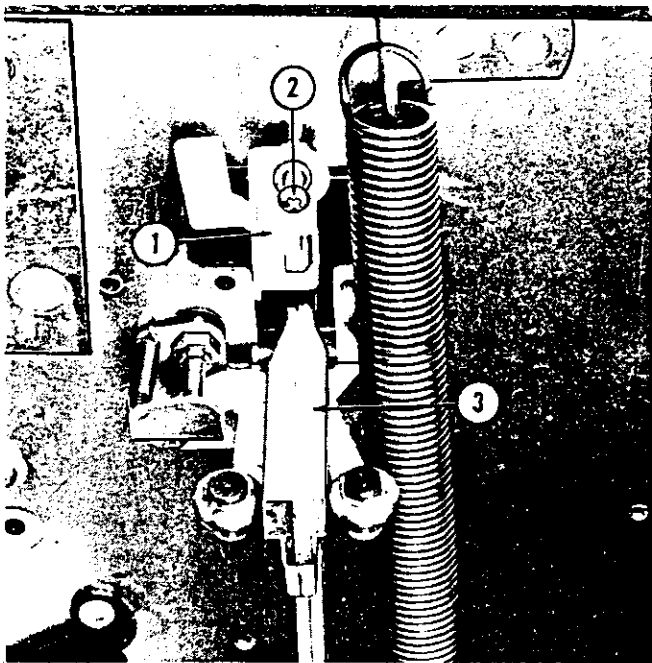
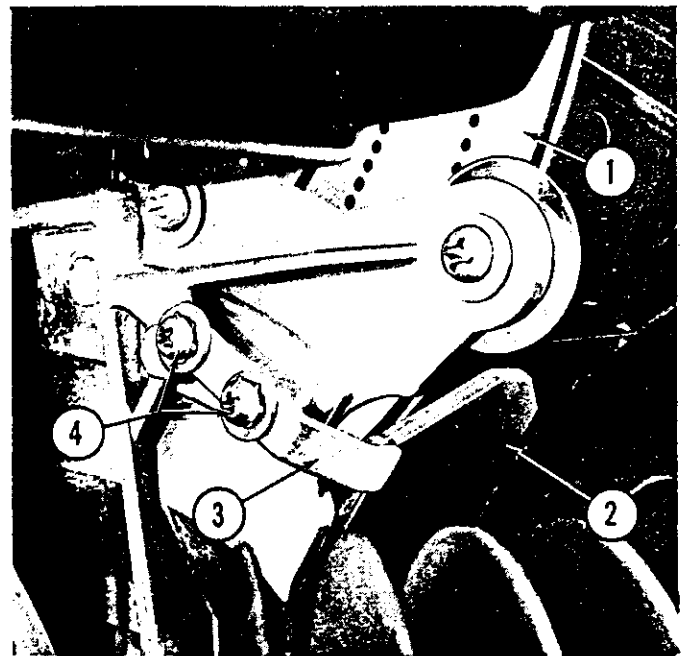

Fig. 73. RECORD LIFT ARM SETTING
Fig. 74. RECORD STOP BRACKET ADJUSTMENT
(4) The lift arms should now be properly positioned by adjusting the "bracket and roller assemblies" at their elongated mounting holes. The lift arms should be down, the pivot pin (shaft) of the guide tips in the slots of the adjusting plates, and the center line of lift arms must be equally displaced to the rear of the radial line from the main center support casting. The position described above has been established during assembly by means of a fixture to provide displacement of $0^{\circ} - 54'$ for each lift arm. This position is scribe marked on the mounting plate for the bracket and roller assembly and on the bracket for the adjustable plate.
j. Record Lift Arm Setting. (Fig. 73)
Each record lift arm is equipped with a bracket, stop nut and screw assembly (Item 1, Fig. 73). The adjusting screw (Item 2) stops against the under side of the mounting plate to control the height to which the record lift arm may be raised. The height at which the adjusting screw stops the lift arm is determined by the lift action necessary to properly position the record for turntable handling. Due to the combined effect of both the "record stop" (See Item 2, Fig. 74) and the record lift arm, it will be necessary to adjust the record stop before proceeding with the record lift arm setting. These two adjustments may be accomplished as follows:
(1) Clamp record disc X42226 or equivalent on the turntable.
(2) Loosen the two screws (Item 4, Fig. 74) that hold each record stop bracket.
(3) Move the stop bracket (Item 3) until the record track rests lightly against the outside edge of the record disc (X42226).
(4) Tighten the screws holding the stop bracket.
(5) Remove the record disc and move the record track (Item 2) to the opposite side of the record guide.
(6) Make the same record stop bracket adjustments described in steps (3) and (4).
(7) Adjust the screw (Item 2, Fig. 73) in each "record lift arm bracket and stop nut assembly" to stop the upward movement of the arm at a point where the top of the arm just touches the outer edge of the record disc X42226.